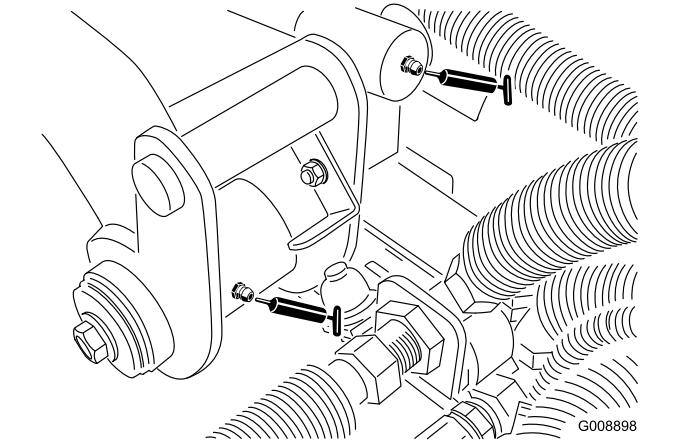

Figure 35
- Rear lift arm pivot and lift cylinder (2) (Figure 35)